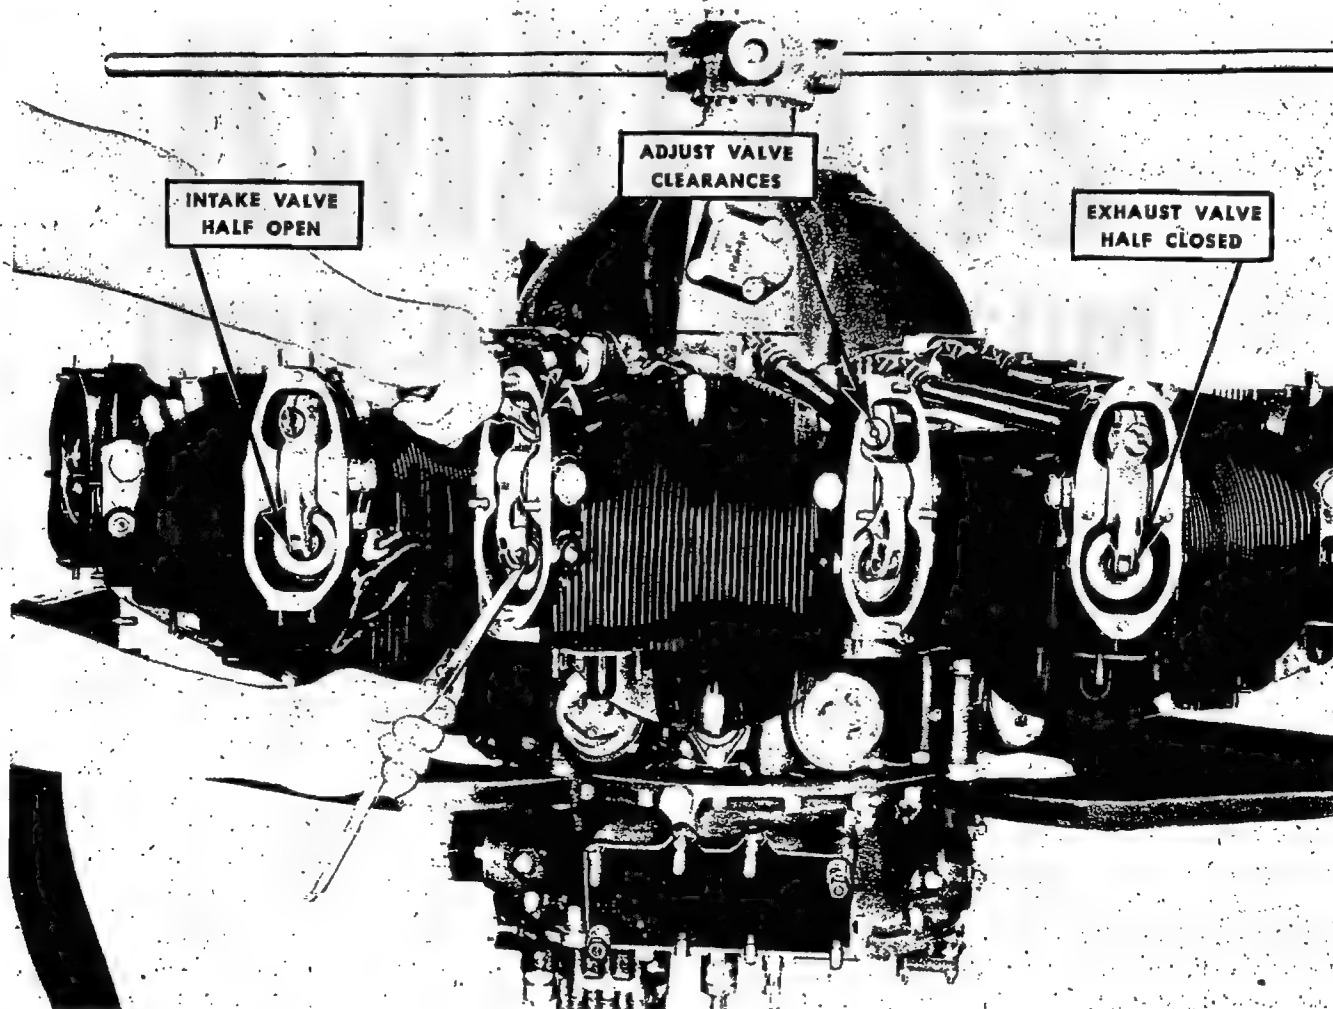

Figure 56—Adjusting Valve Clearance
(4) Turn the adjusting screw in a counterclockwise direction until desired clearance of .010 inch is obtained as indicated by a strip of feeler stock. See figure 56. Tighten the adjusting screw lock screw, using wrench (Tool No. 81900) and check the adjusting screw for tightness. Recheck the clearance.